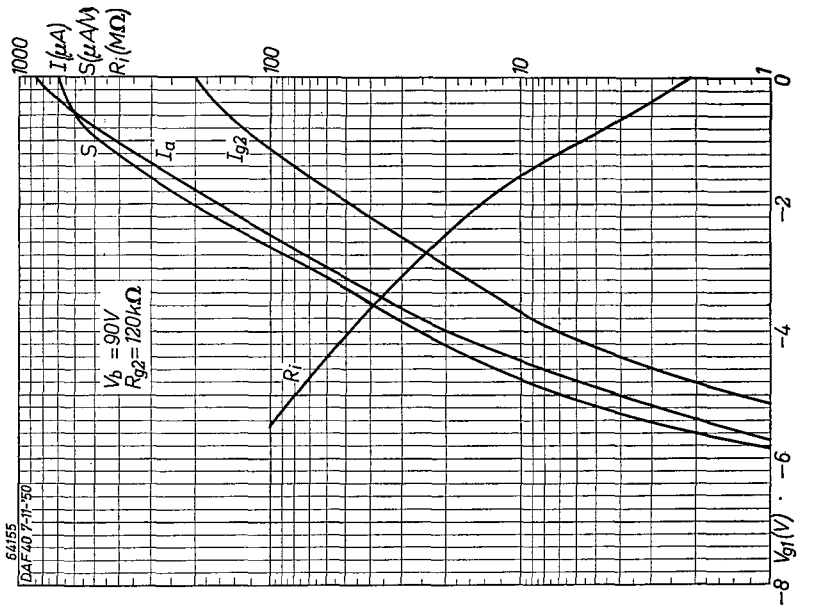
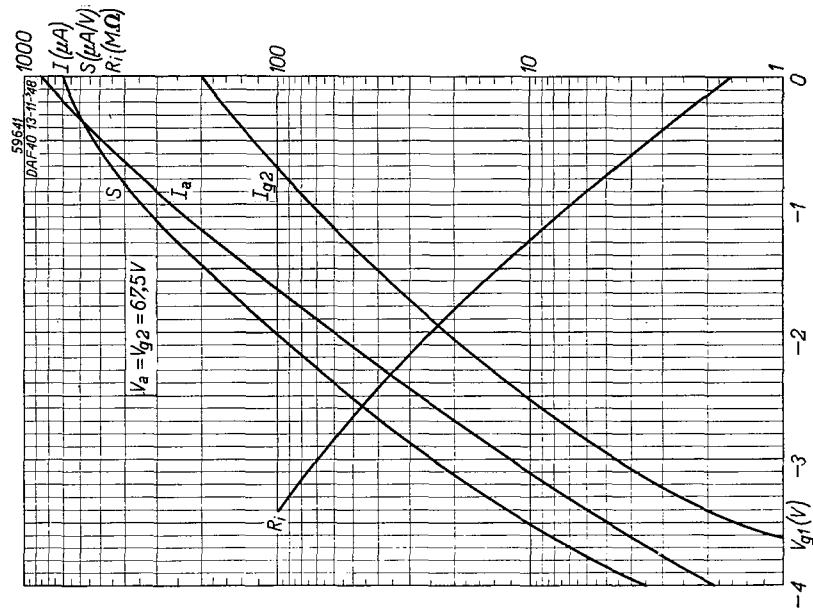

Fig. 6
Fig. 5
Anode current (I_a), screen grid current (I_{g2}), mutual conductance (S) and internal resistance (R_i) as functions of the grid bias (V_{g1}) for an anode and screen grid voltage of 90 V (Fig. 6).
Anode current (I_a), screen grid current (I_{g2}), mutual conductance (S) and internal resistance (R_i) as functions of the grid bias (V_{g1}) for an anode and screen grid voltage of 67.5 V (Fig. 5) and for a supply voltage of 90 V (Fig. 6).
As Fig. 6, but for a supply voltage of 120 V.